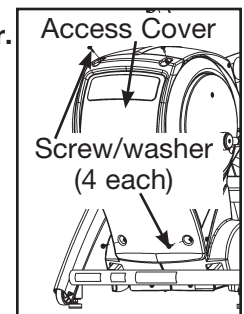

Figure 2
- A.** Using a Phillips screwdriver, remove the four screws and four washers securing the access cover. See Figure 2.